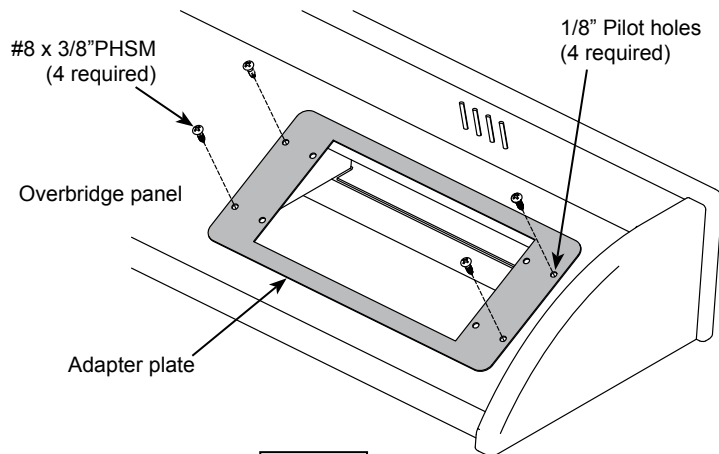

Figure 1
- Place the adapter plate over the overbridge cutout. **Figure 1.**
- Attach the adapter plate to the overbridge with (4) #8 x 5/8" PHSM screws and tighten securely. **Figure 1.**